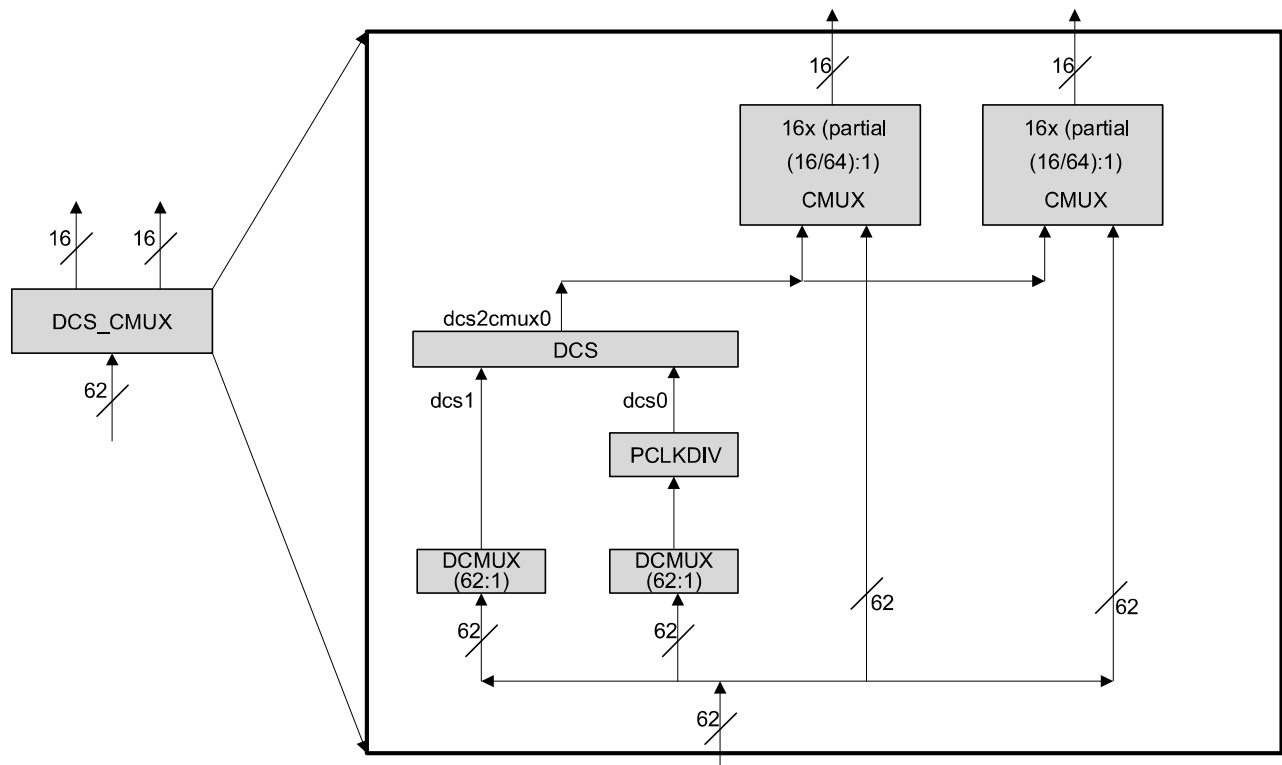

Figure 2.9. DCS\_CMUX Diagram
The PCLKDIV supports  $\div 2$ ,  $\div 4$ ,  $\div 8$ ,  $\div 16$ ,  $\div 32$ ,  $\div 64$ ,  $\div 128$ , and  $\div 1$  (bypass) operation. The PCLKDIV is fed from a DCSMUX within the DCS\_CMUX block. The clock divider output drives one input of the DCS Dynamic Clock Select within the DSC\_CMUX block. The Reset (RST) control signal is asynchronous and forces all outputs to low. The divider output starts at next cycle after the reset is synchronously released. The PCLKDIV is shown in context in Figure 2.9.
All clock sources are selected and combined for primary clock routing through the Dynamic Clock Selector Center Multiplexer logic (DCS\_CMUX). There are one (1) or two (2) DCS\_CMUX blocks per device. Each DCS\_CMUX block contains 2 DCSMUX blocks, 1 PCLKDIV, 1 DCS block, and 1 or 2 CMUX blocks. See Figure 2.9 for a representative DCS\_CMUX block diagram.